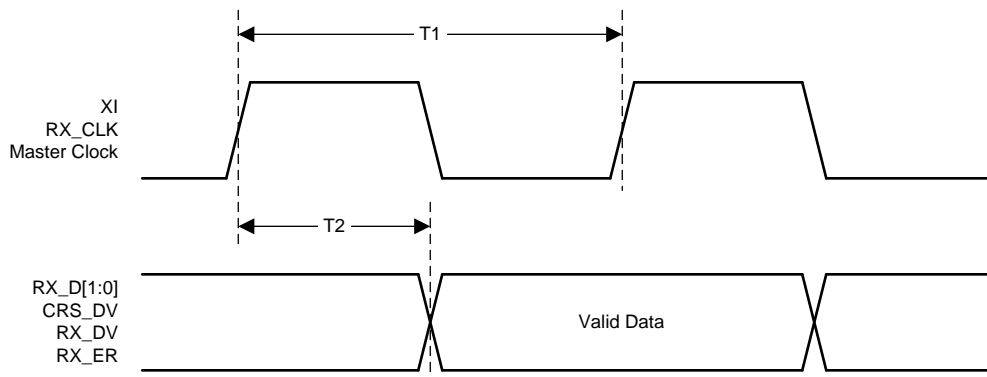

图 9. RMI Receive Timing
(1) Ensured by production test, characterization or design.
(2) See 图 9.